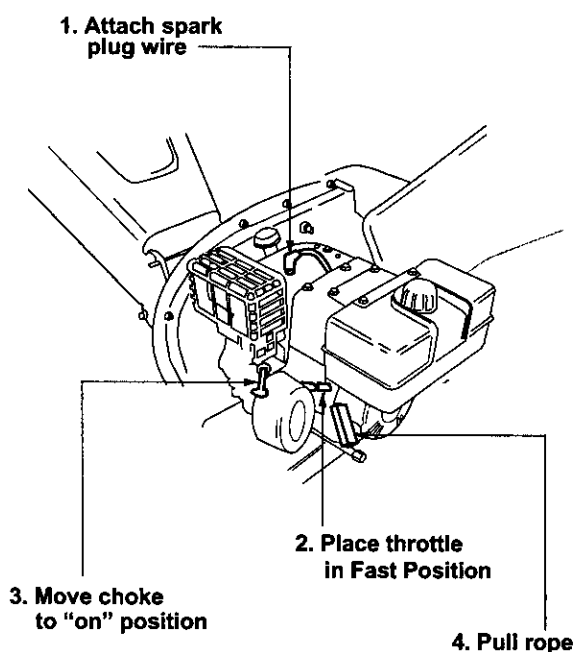

Figure 11
- Attach spark plug wire and rubber boot to spark plug. See figure 11.
- Place throttle in FAST position. See figure 11.
- Grasp starter handle and pull rope out slowly until engine reaches start of compression cycle (rope will pull slightly harder at this point). Let the rope rewind slowly. Pull rope with a rapid full arm stroke. Let rope return to starter slowly. See figure 11.